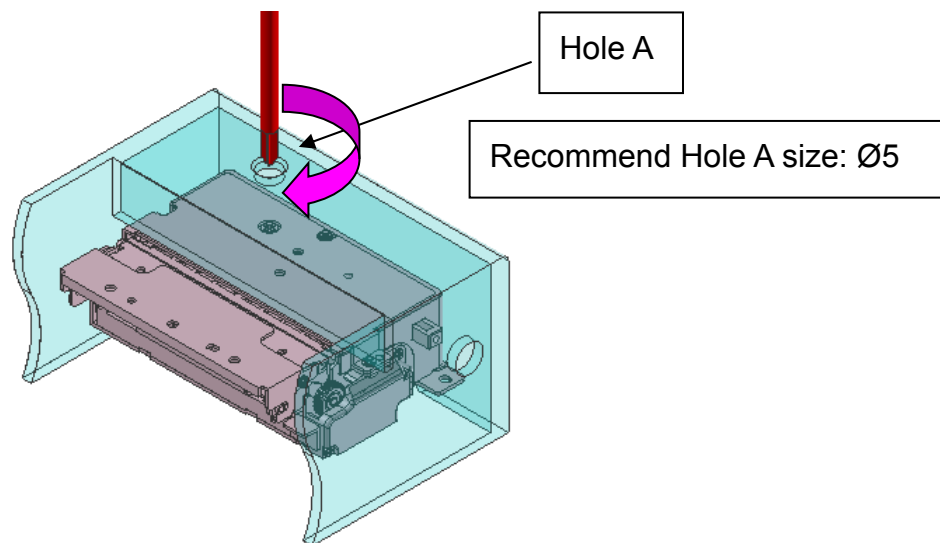

Fig 12-8 Example using hand driver and the recommended size of the hole
- When the cutter jam occurs, turn the hand driver in the direction of the arrow shown in Fig 12-8 until it does not turn anymore to resolve the problem. It will not turn anymore when the problem is resolved. (Number of turns: 1~2 turns)
- Method to clear the cutter jam using hand driver (Refer to Fig 12-8)